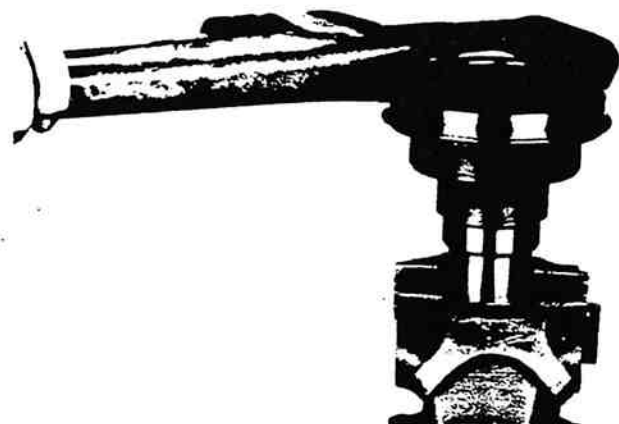

Figure 13-114. Installing Bearing Nut.
3. Install the bearing nut on threads of output shaft and torque to 250-300 ft. lbs. (figure 13-114).